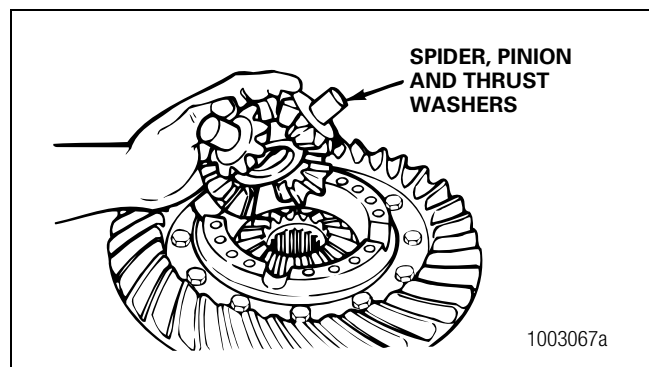

Figure 5.39
12. Install the spider or cross, differential pinions and thrust washers into the flange case half. Figure 5.39.